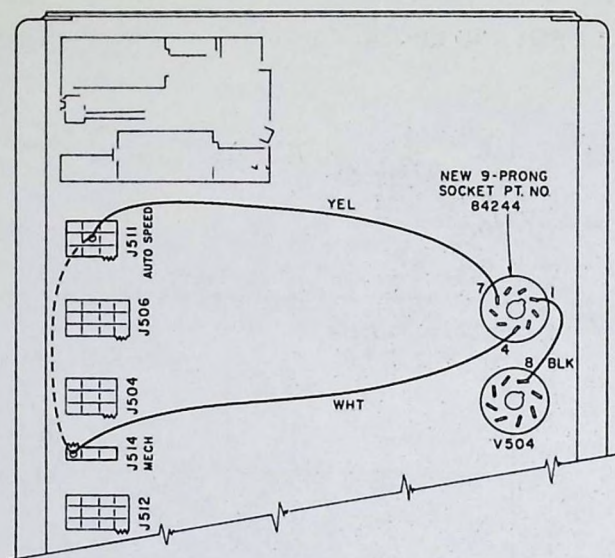

Figure 4. Wiring.
1. Remove "knockout" located adjacent to octal socket V504 and install 9-prong socket wired assembly, Part No. 84244, supplied. Prong 4 of socket should point toward V504, as shown in Figure 4.